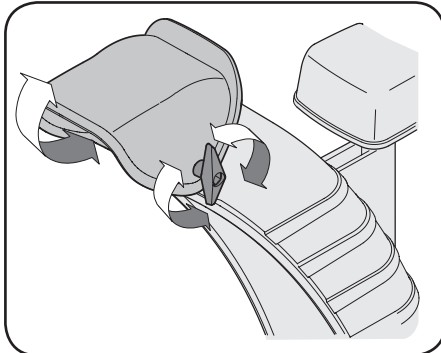

Figure 2-42
1. Loosen wing knob found on left side of chute assembly. See Figure 2-42.